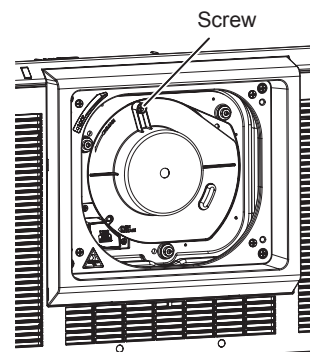

Fig. 3
**4) Secure the lens hole cover. (Fig. 3)**